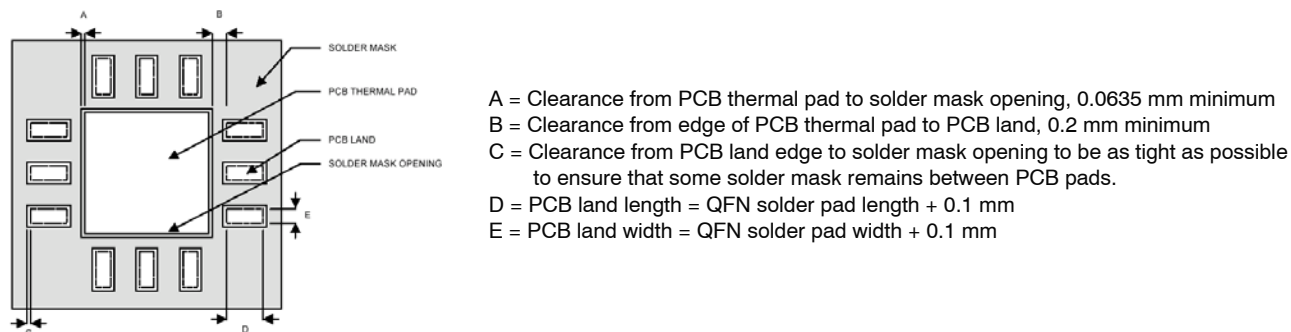

Figure 7. PCB Land and Solder Mask Recommendations
1. PCB land and solder masking recommendations are shown in Figure 7.